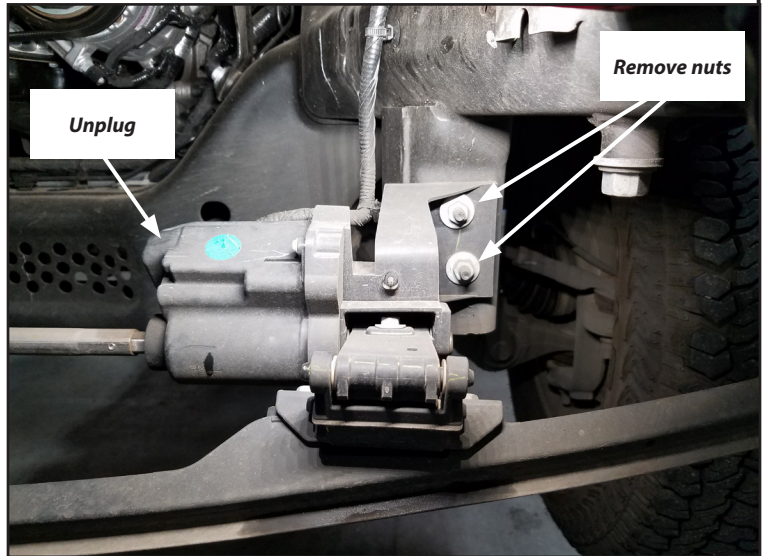

Figure 5
- Unplug the motor and remove the four retaining nuts with a 12mm socket (see Figure 5 and 6) .